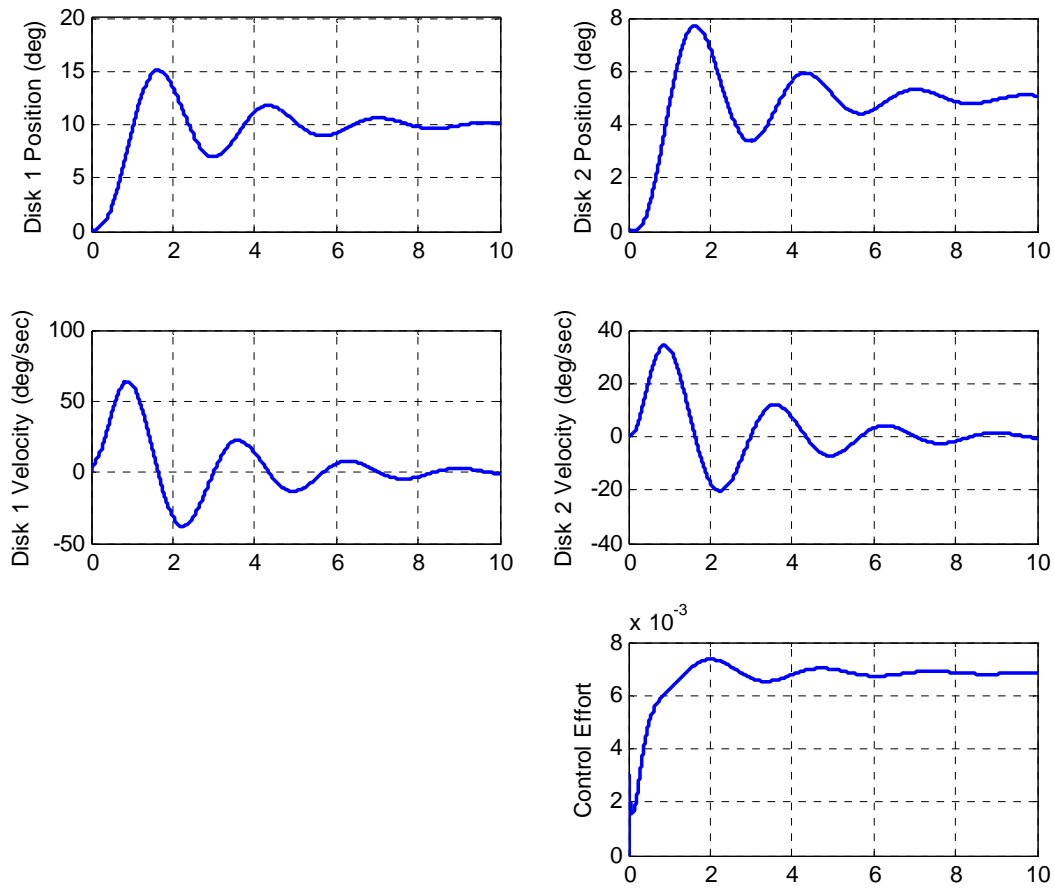

Figure 7. Integral control of a 2 dof system with bad data. We are controlling the position of the first disk (problem 2e).
e) Now assume everything is the same as in part d, but now we want to control the position of the first disk. You should get results like those in Figure 7. If your results agree, remove the line $A = A*0.25$ from your code.